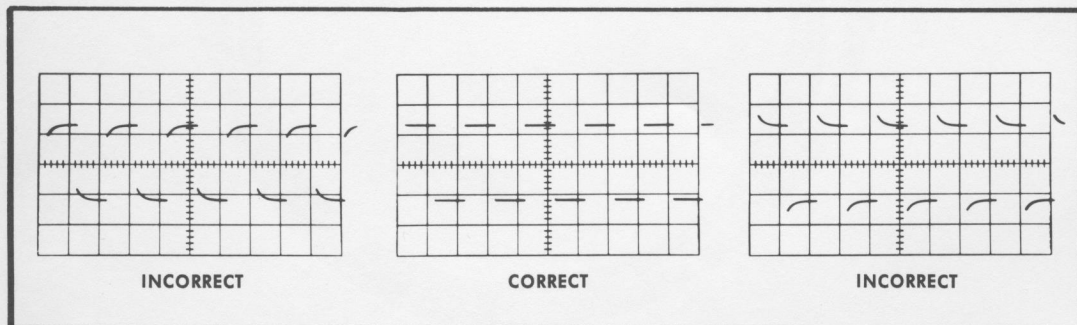

Fig. 2-1. Probe Compensation.
4. Through the hole in the Compensating Box, rotate the capacitor (C105) with a small non-conducting screwdriver to obtain a flat-top presentation of the calibrator output signal. See Fig. 2-1.